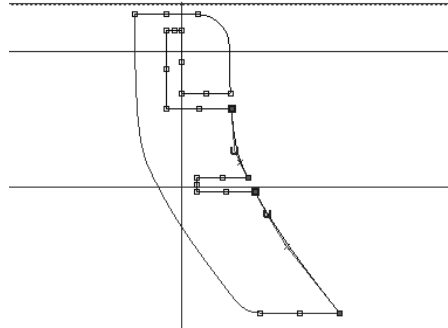

Figure 7-88 Profile after removing curve sections
8. Press the DELETE key; the selected curve sections are removed from the profile and the complete profile after sectioning is displayed, as shown in Figure 7-88.